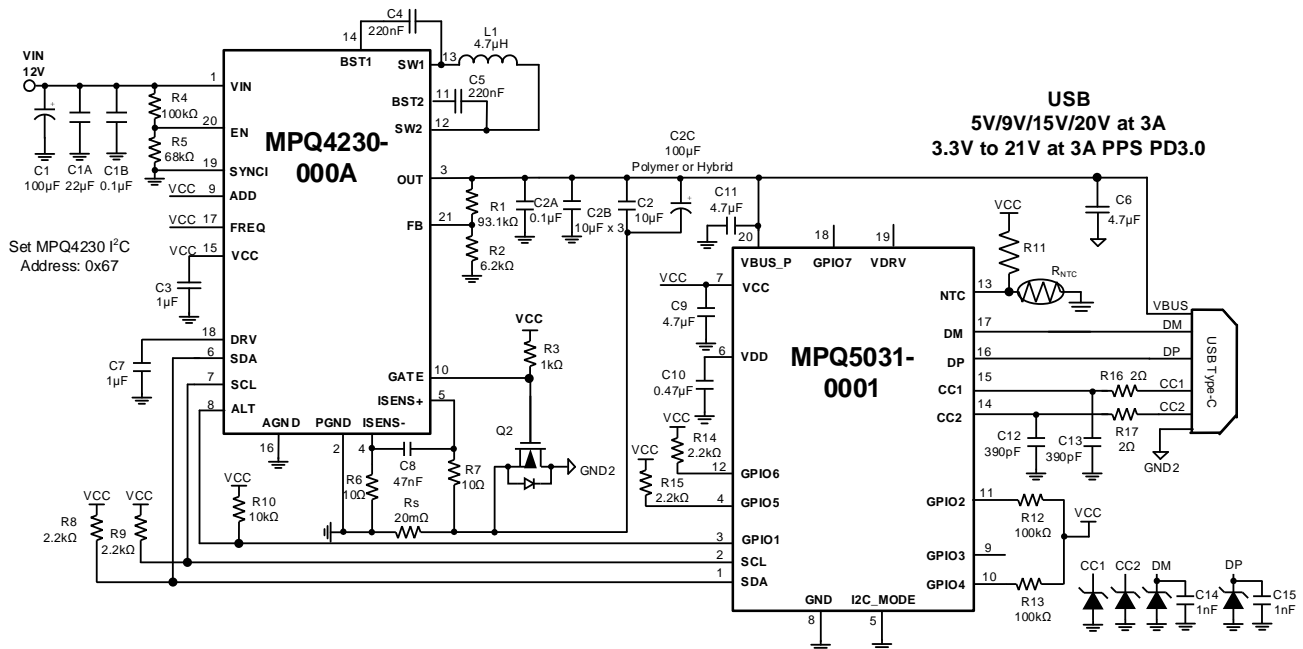

Figure 20: MPQ4230 + MPQ5031 for 60W PD Application (12)
- 11) The recommended layout is based on Figure 20 on page 41.